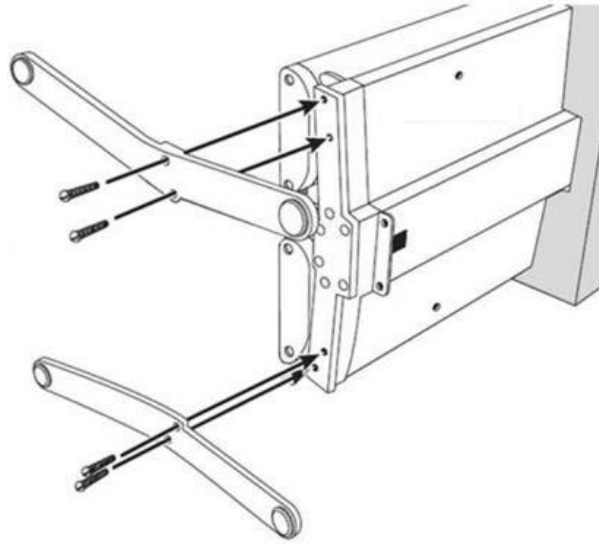

Figure 1 Feet Installation
- b. **Feet (2)**, found in the top and bottom Foam shock absorbers or taped to inside of cardboard crate.
- c. **Stabilizer Bracket (2)**, found in the middle shock absorber or taped to inside of cardboard crate.
6. The screws to attach the feet are pre-inserted in the bottom of the unit at the factory – remove the top and bottom foam shock absorbers to locate the end of the device that has screws protruding (Units with doors: screws protrude from metal bracket); this is the bottom of the device. Using a #3 Phillips screwdriver, remove the screws, then position the first foot so that its “longer” side is toward the front (the lamp side of the device – see Figure 1 Feet Installation) and the side of the foot with the rubber pads is towards the floor. Mount the feet using the screws that were removed from the bottom of the device. Repeat the process for the second foot. Do not overtighten screws.